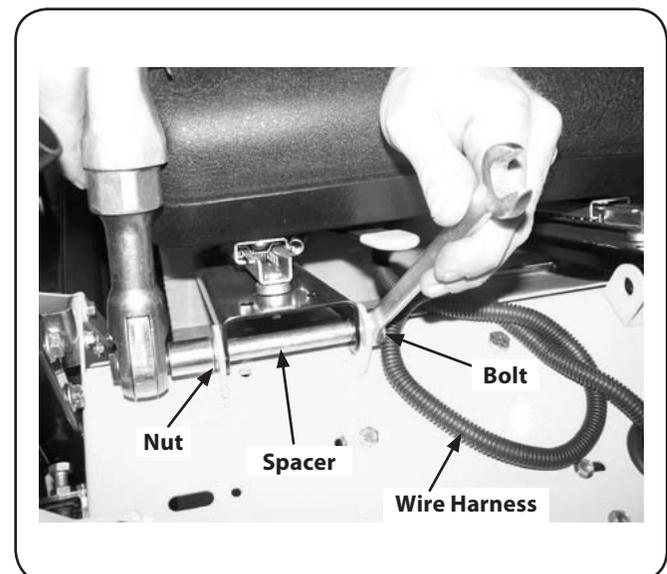

Figure 3-3
3. Rotate the seat into position and secure the seat into place with the previously removed shoulder bolts, nuts and spacers. Be careful not to crimp or damage the wire harness while installing the seat. See Fig. 3-3.